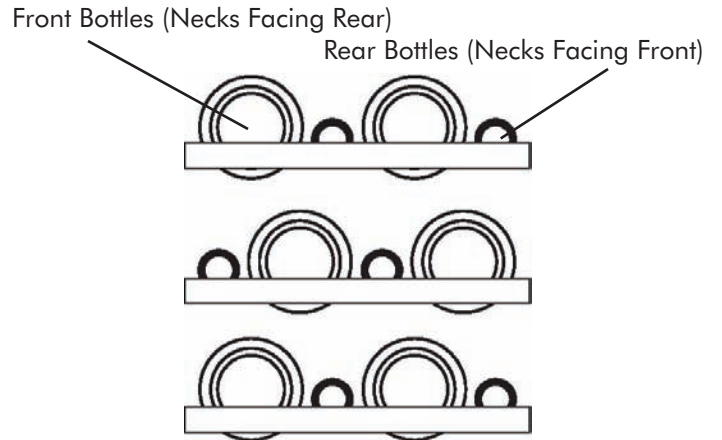

Figure 4
The six (6) roll-out shelves each hold four (4) bottles. See Figure 4 for typical wine bottle spacing. Tall bottles should not be loaded on the bottom rack because they may prevent the door from closing.